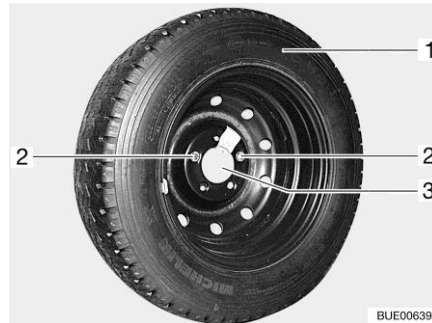

Fig. 231 Spare wheel support in the rear garage
- Loosen and remove both fixing screws (Fig. 231,2) with the on-board tool set.
- Remove the spare wheel (Fig. 231,1) from the support (Fig. 231,3).